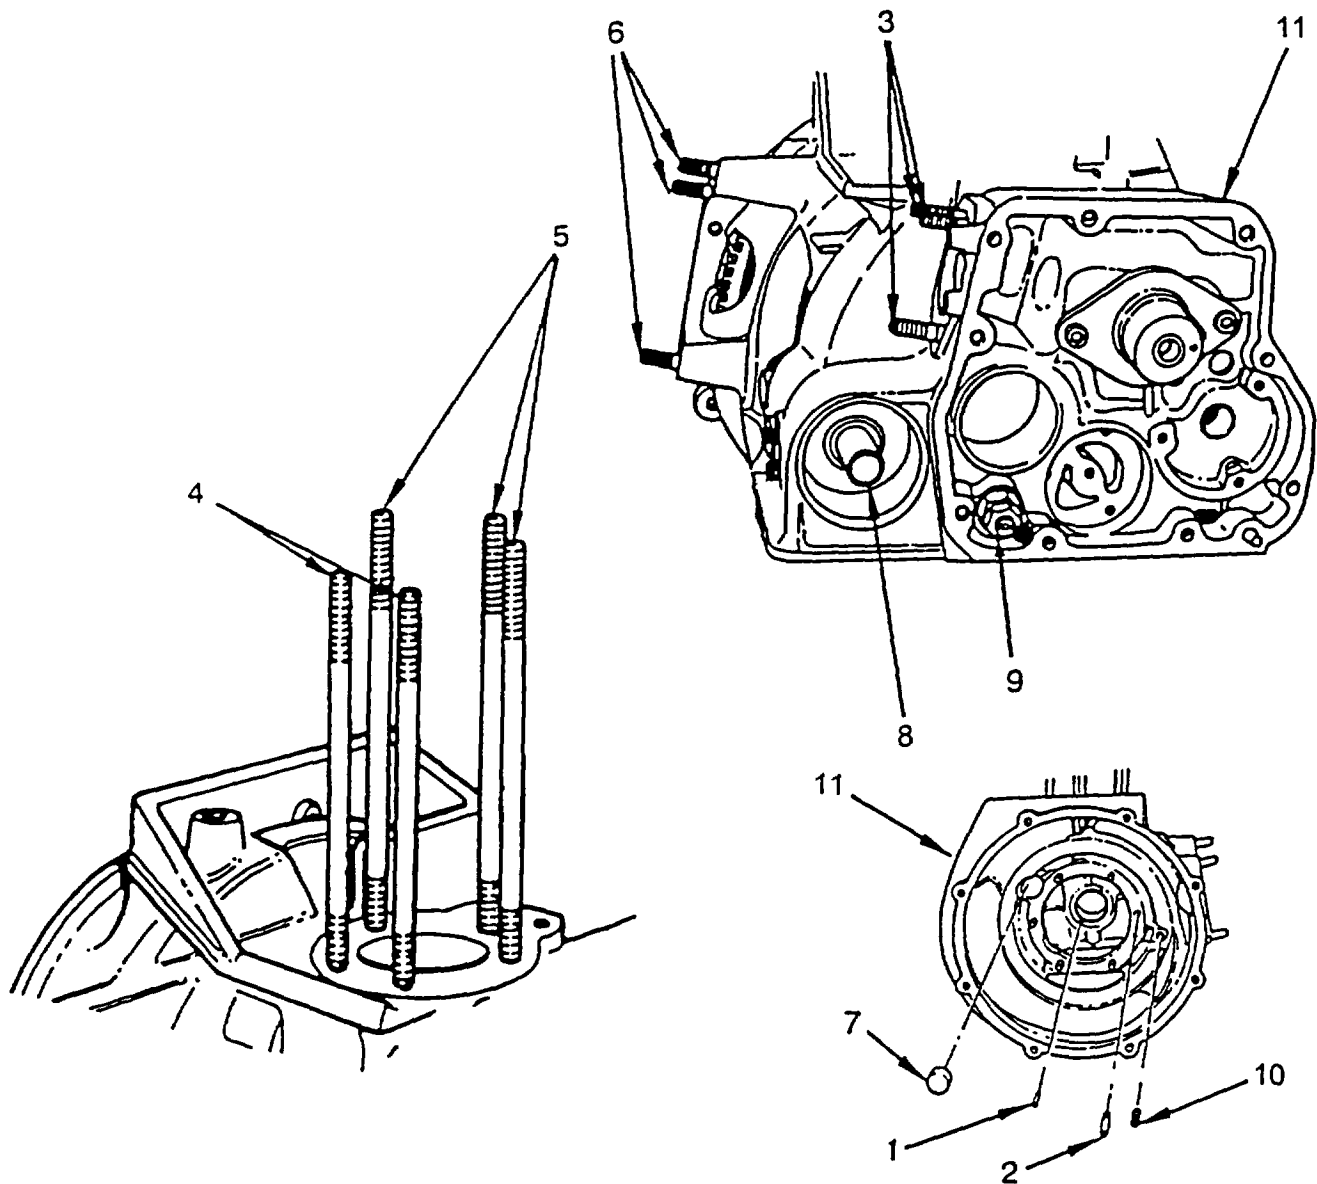

Figure 6-9. Crankcase Repair
a. Disassembly. (Refer to Figure 6-9).
- (1) Inspect pins (1), studs (2 thru 6) cam shaft bore plug (7), oil tube adapter (8), relief valve assembly (9), and oil plug (10) for damage. Replace as required. Do not adjust or disassemble relief valve assembly (9) No adjustment is required.